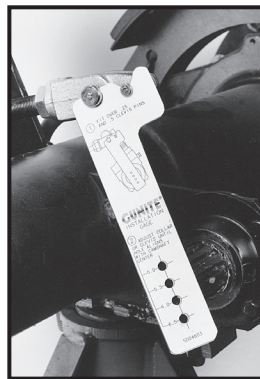

Figure 4 - Gage Location
2. Insert the clevis pins into the threaded clevis. Install the template over the small and large pins as shown in Figure 4. Align the template by adjusting the clevis in or out on the push rod until the hole at the bottom of the template aligns with the center hole on the camshaft.